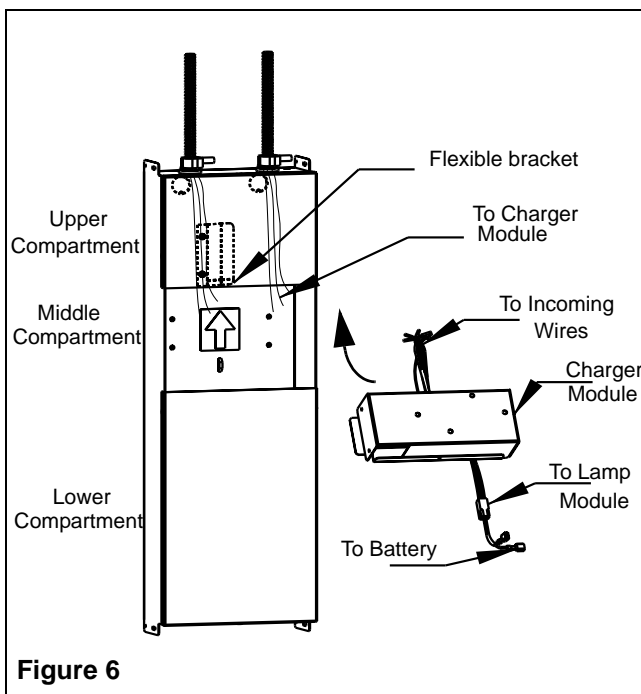

Figure 6
Charger Module Installation (Figure 6)
9. Place the charger module in the back-box with the outgoing wires on the right side. Enter the module at an angle, to bypass the flexible bracket in the back-box; then slide the module upward, until it is latched by the flexible bracket. (Figure 6).